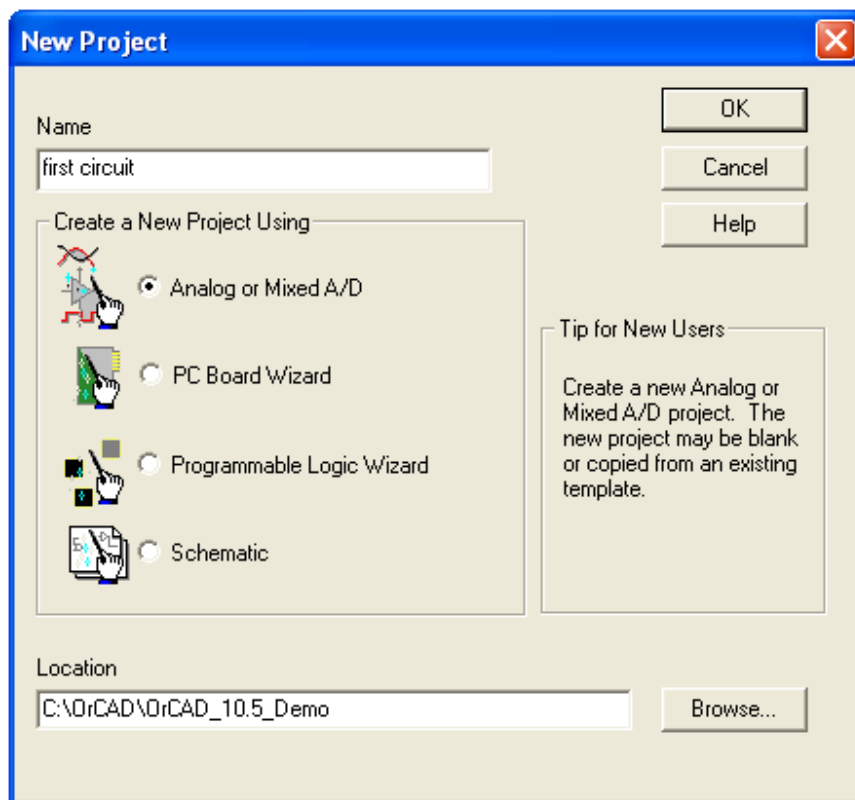

Figure 1 – New Project Window
- b. Select File → New → Project. From the New Project window, give your project a name, select “Analog or Mixed A/D”, and select its location (see Figure 1). Change the “location” at the bottom to “C:\OrCAD” or another proper directory (You may need to create a new directory first).